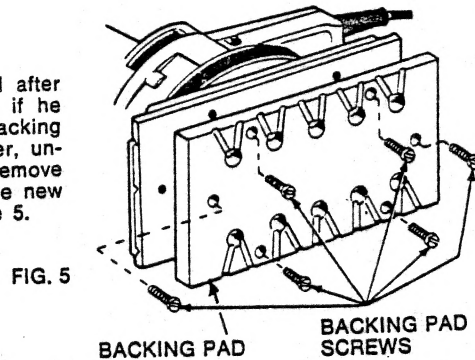

FIG. 5
The user can change the Backing Pad after it has undergone prolonged usage or, if he wishes, replace it with the rubber Backing Pad, Cat. No. 59910. Unplug the Sander, unscrew the six Backing Pad screws, remove the existing pad and replace it with the new one. Tighten the (6) screws. See Figure 5.